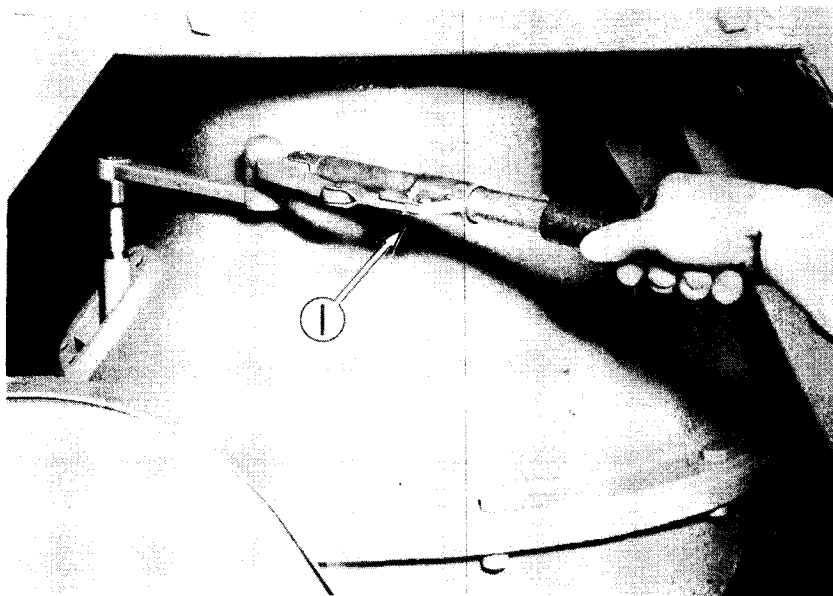
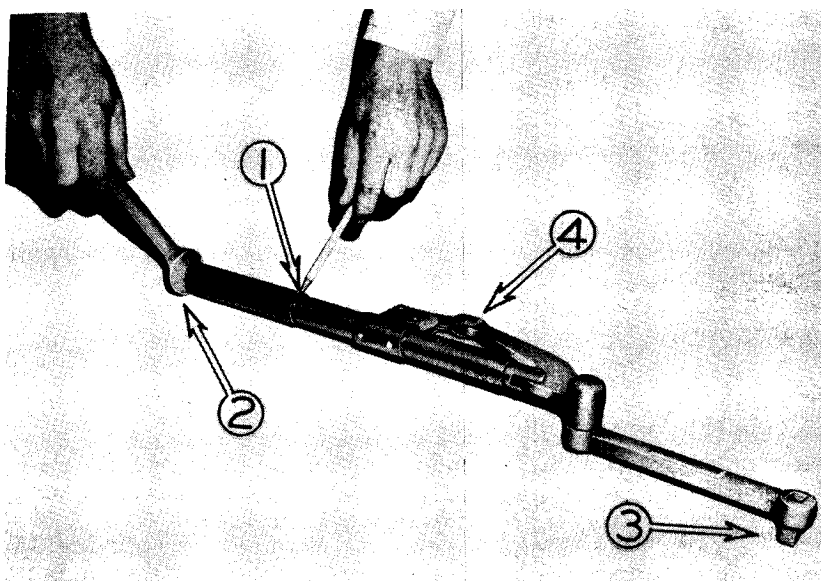

Figure 44 Tightening Gear Clamp
Figure 45 Setting Tension Wrench
Refer to Figure 44 showing a special wrench (1) including a wrench extension which is furnished with the tool equipment. Use the special wrench and extension for setting the capscrews to the proper tension. Refer to Figure 45 at the point indicated (1). Set the wrench on number 10 of the graduated scale which is stamped on the barrel, even with the upper end of the sleeve. The proper setting of the wrench is made by turning the hexagon nut (2) at the end of the handle.
Insert the square drive pin (3), Figure 45, into the socket wrench and extension bar. Tighten the capscrews until the wrench toggle (4) snaps over center toward the body of the wrench. Continue the process for each capscrew around the column flange and all capscrews will have the same tension.